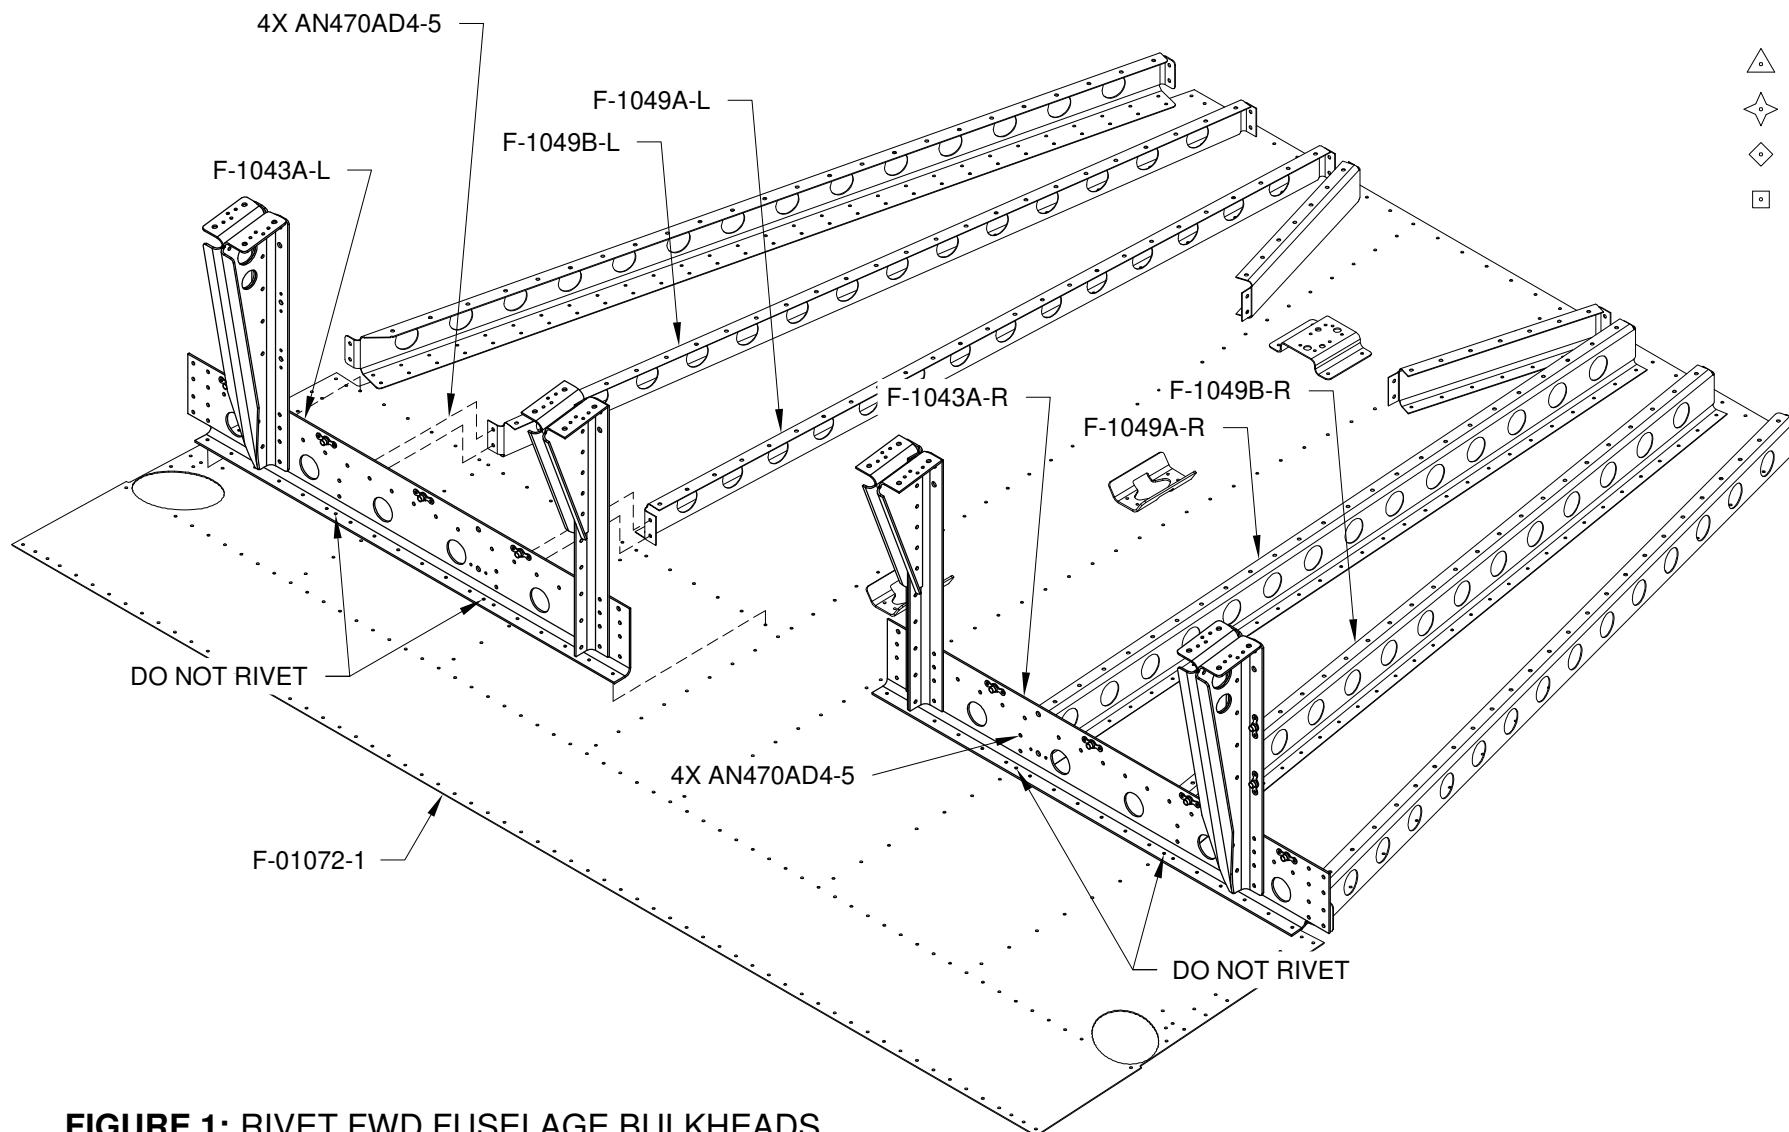

FIGURE 1: RIVET FWD FUSELAGE BULKHEADS TO FWD FUSE BOTTOM SKIN
Step 2: Rivet the aft tabs of the F-1049A-L and F-1049B-L Fwd Fuselage Floor Ribs to the F-1043A-L Fwd Fuselage Bulkhead as shown in Figure 1.
Rivet the aft tabs of the F-1049A-R and F-1049B-R Fwd Fuselage Floor Ribs to the F-1043A-R Fwd Fuselage Bulkhead as shown in Figure 1.
Step 1: Rivet the F-1084A-L and F-1084A-R Systems Brackets to the F-01072-1 Fwd Fuse Bottom Skin and F-1043A-L and F-1043A-R Fwd Fuselage Bulkheads as shown on Page 28-6, Figures 1 and 3.
Step 2: It is recommended to use a thin layer of Pro-Seal between the firewall flanges and the fuselage skins. Apply Pro-Seal to the lower flange of the F-1001A Firewall Bulkhead then cleco the Firewall Assembly to the F-01072-1 Fwd Fuse Bottom Skin as shown in Figure 1.